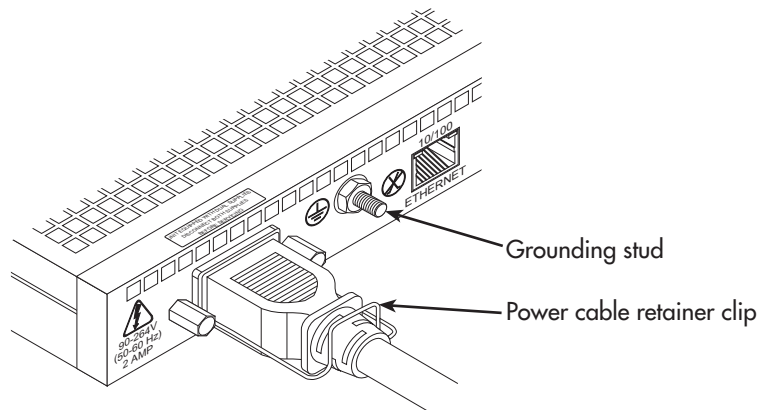

Figure 6. Power cable retainer clip
- Rotate the power cable retainer clip so it secures the power cable plug in the IEC-320 connector as shown in figure 6.
- Install the ground wire between the grounding stud (see figure 6) and the grounding source.